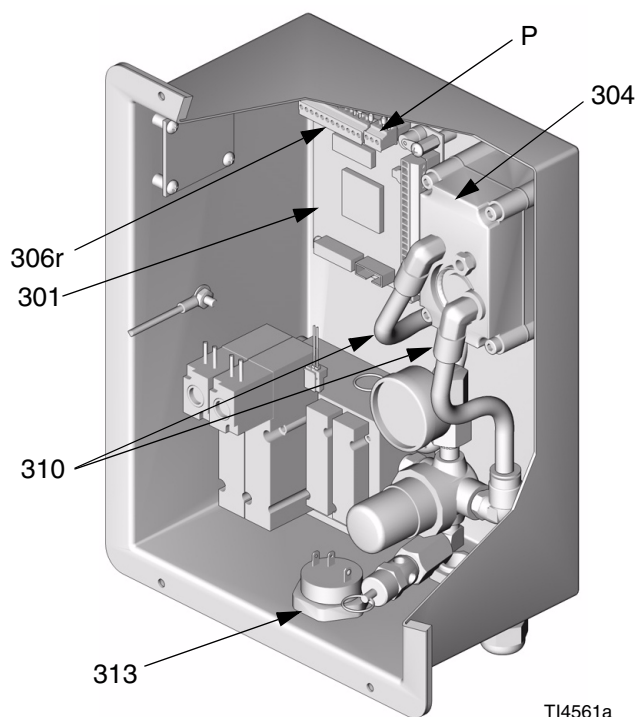

FIG. 5
2. Disconnect power supply wires (P). FIG. 5.
2. Remove two screws (309) from the back of the control box.
3. Disconnect supply and exhaust air lines (310). FIG. 5, page 19.
3. Unscrew alarm (313) and replace. FIG. 5, page 19.